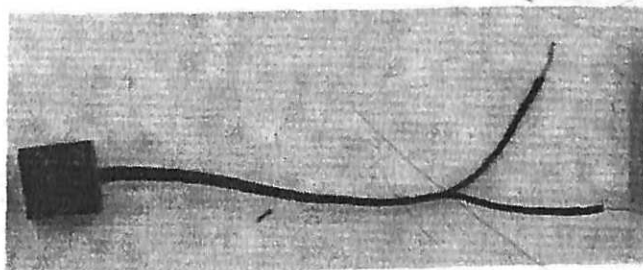

Figure 5.4.1. Modified RCX cable.
1. Measure your RCX cable and look at the two images below. Cut the cable such that both ends are long enough to use in your circuit. Separate and strip the cable (see Figure 5.4.1).